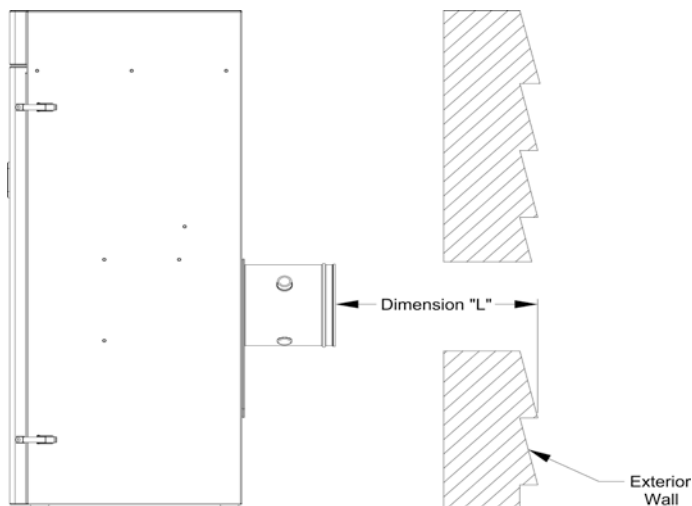

Figure 14: Dimension “L”
- b. Measure dimension “L” from exterior wall outer surface to the end of the last fitting (or end of installed Boiler Concentric Vent Collar). See Figure 14 ‘Dimension “L”’.